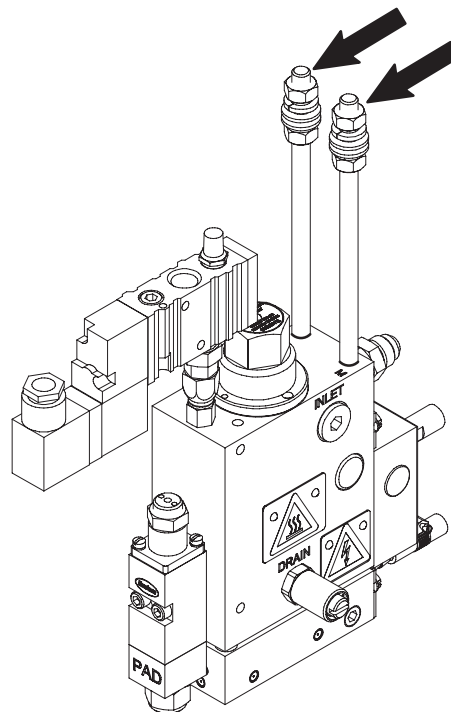

Figure 3-4 Location of the mounting rods on a typical applicator
2. See Figure 3-4. If applicable, install any hardware that will be required on the production line to accommodate the applicator mounting rods. If possible, use mounting hardware that will allow you to adjust the height of the applicator between 13–76 mm (0.5–3.0 in.) after it is mounted.